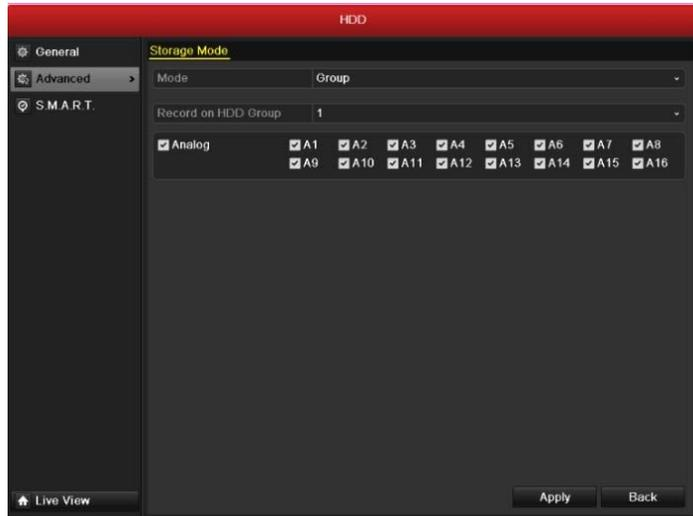

Figure 13.12 Storage Mode Interface
2. Set the **Mode** to Group, as shown in Figure 13.12.